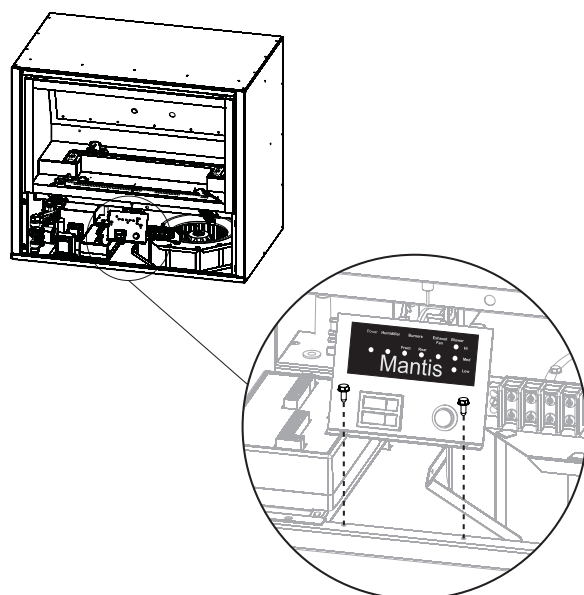

Figure 52
5. Remove two (2) screws from Mantis Control Panel Circuit Plate. See Figure 52.
7. Using the two (2) screws removed in Step 5, reattach the Mantis Control Panel Circuit Plate. See Figure 52.